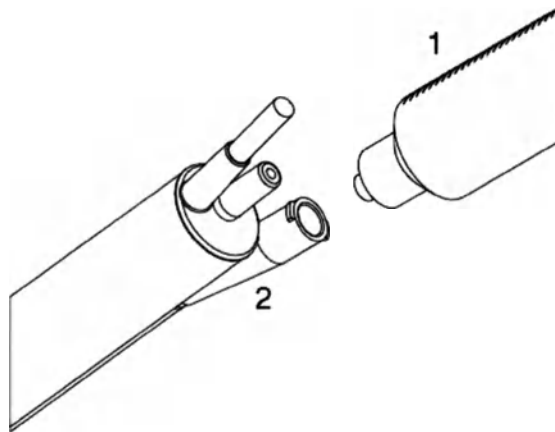

Figure 5.5. **Flushing Ultrasound Handpiece.**
C. Flush the irrigation lumen as follows (see Figure 5.5 below):